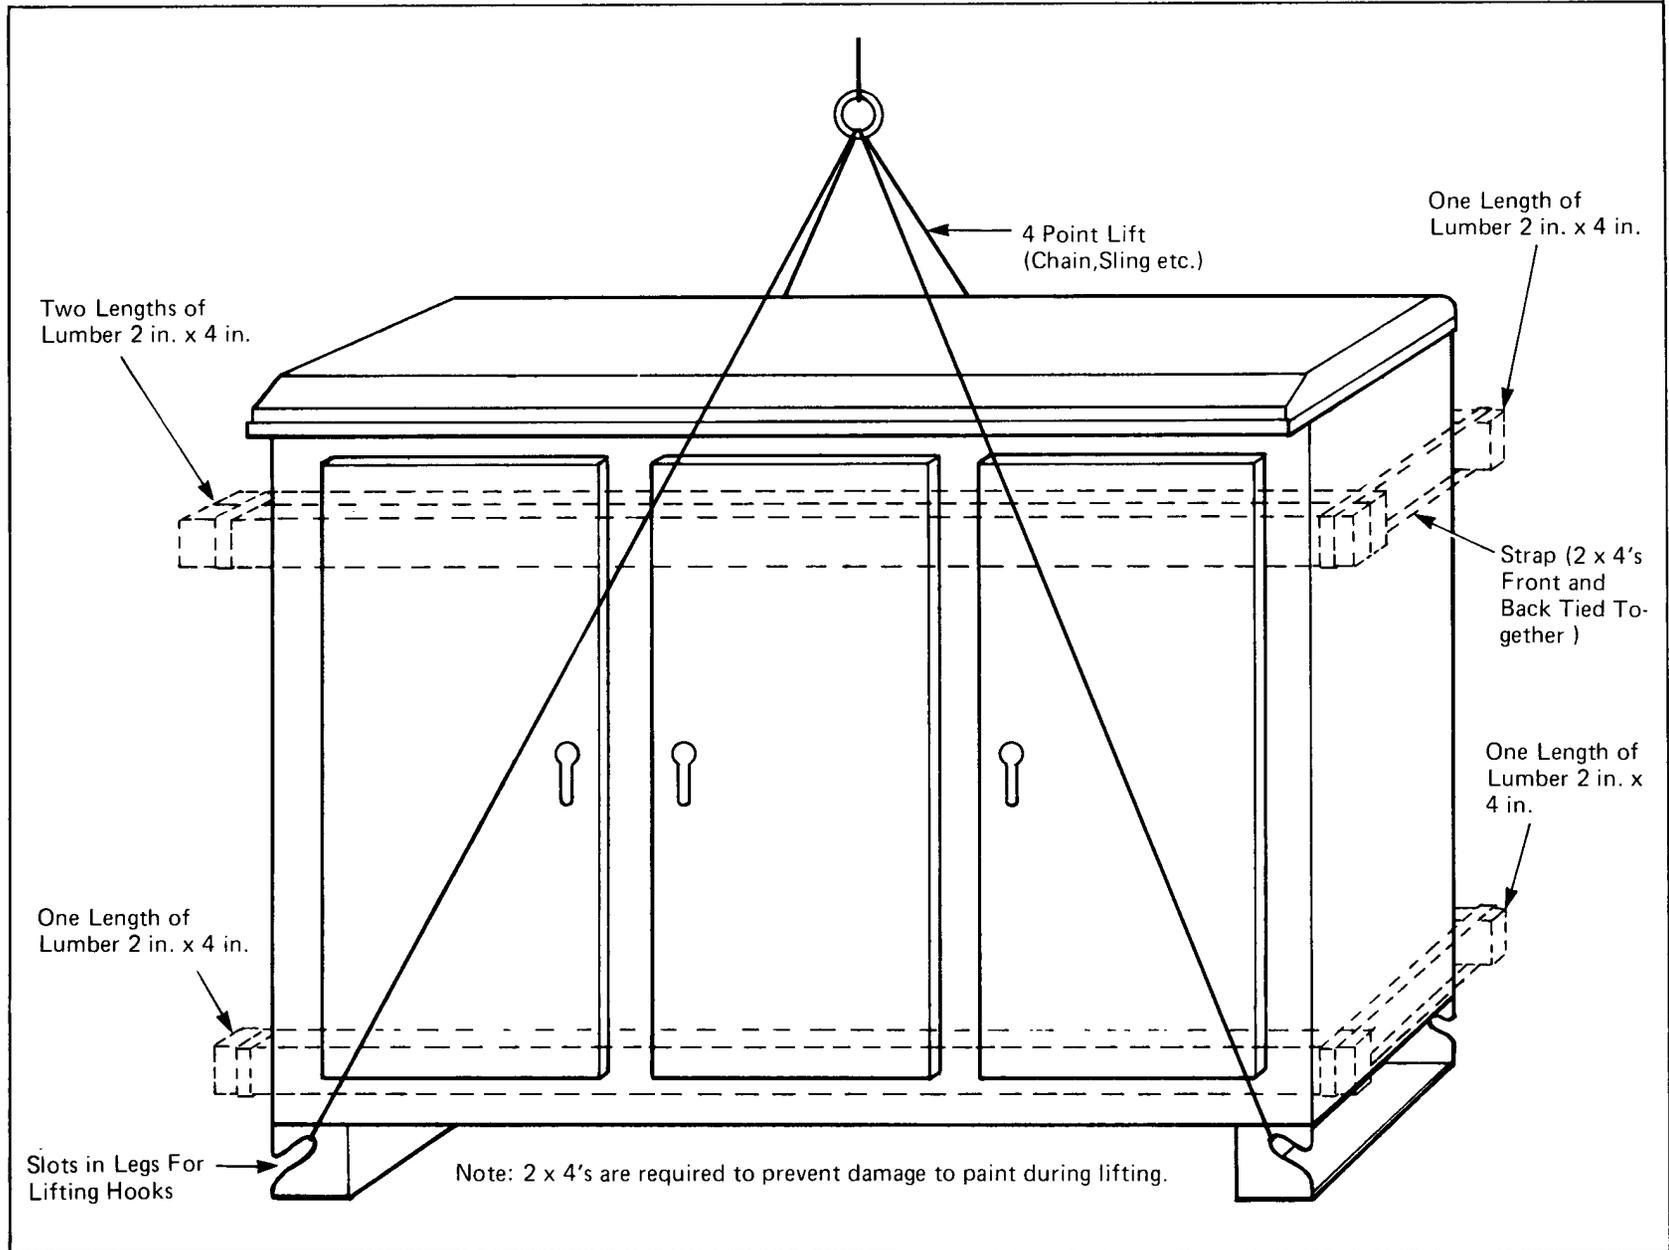

Fig. 19 — Suggested Lifting Method for RCT Cabinet
4.03 Secure each end of a suitable lifting cable to the lifting notches in the legs of the cabinet (Fig. 19). Attach a crane hoist to the center of the lifting cable and raise the housing to the required mounting height. Guide the cabinet during hoisting with a handline(s) secured around the bottom of the cabinet.